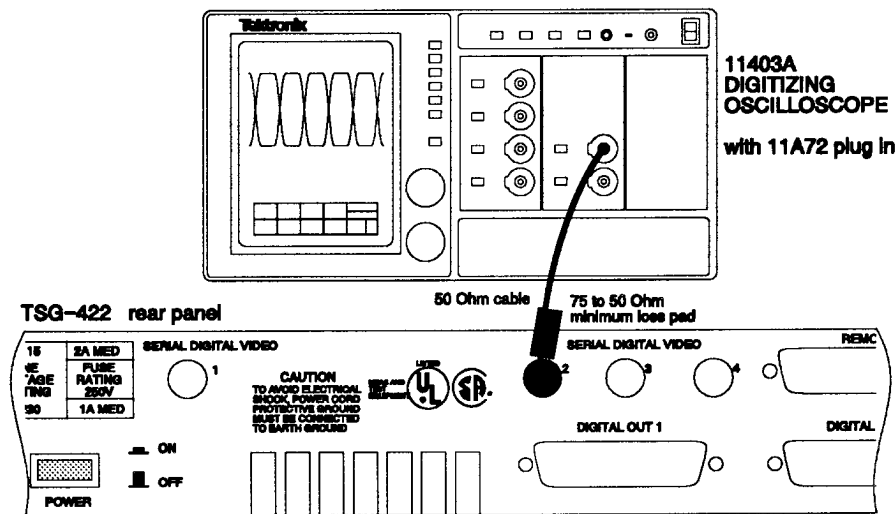

Fig. A-8.
- d. In the **WAVEFORM HORIZONTAL DESC** menu, set the **Display Type** to: **VARIABLE PERSISTENT**. This adjustment should result in the outline of the eye pattern displayed on the screen. The eye pattern should be similar to Fig. A-8.